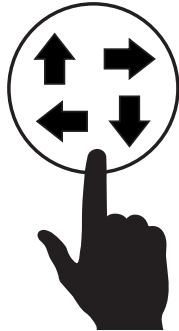

Figure 53. Mode Change Button
1. On the touch display, press the **Mode Change** button (Figure 53).